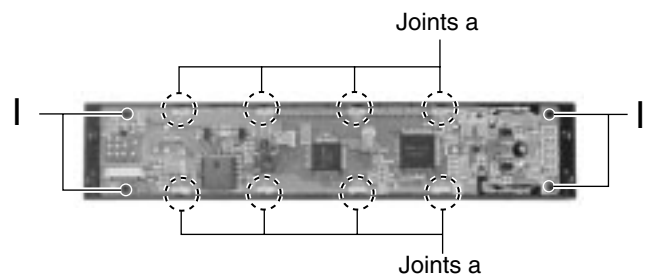

Fig.9
**■ Removing the Front Board (See Fig.9)**